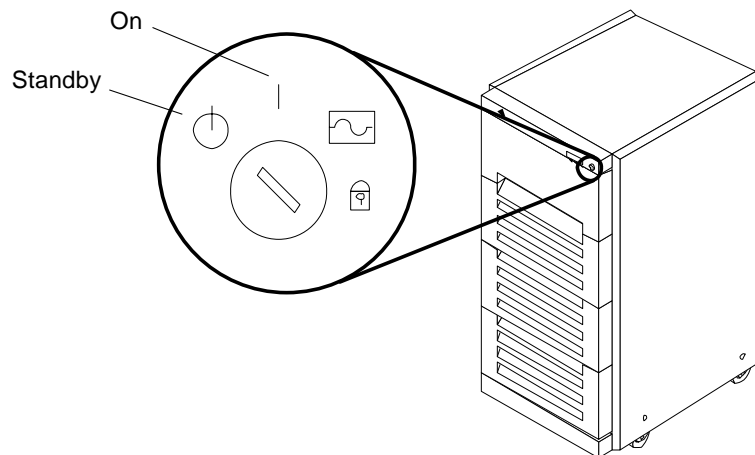

Figure 7-16 Key Switch Positions
See Figure 7-16.
See Figure 7-16 on page 7-22.
5. Turn the key switch to | (the power-on position). See Figure 7-16.